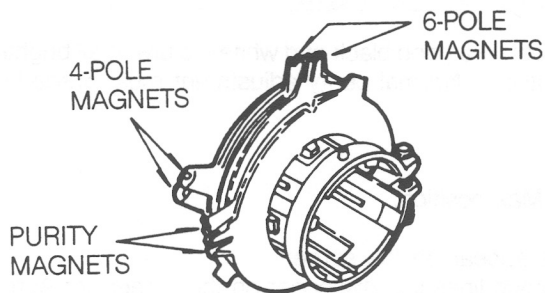
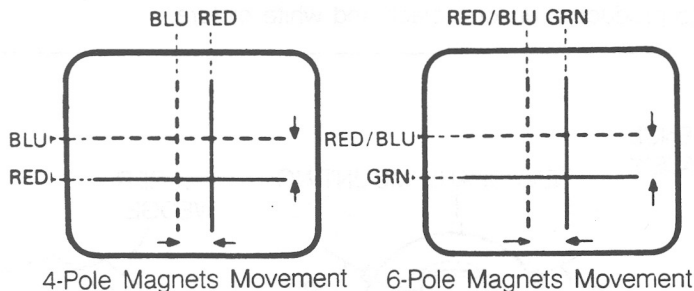

Fig. 11 CONVERGENCE MAGNET ASSEMBLY
Fig. 12 CENTER CONVERGENCE BY CONVERGENCE MAGNETS
3. Adjust two tabs of the 4-pole Magnets to change the angle between them (See Fig. 11) and superimpose red and blue vertical lines in the center area of the picture screen. (See Fig. 12)
4. Turn both tabs at the same time keeping their angles constant to superimpose red and blue horizontal lines at the center of the screen. (See Fig. 12)